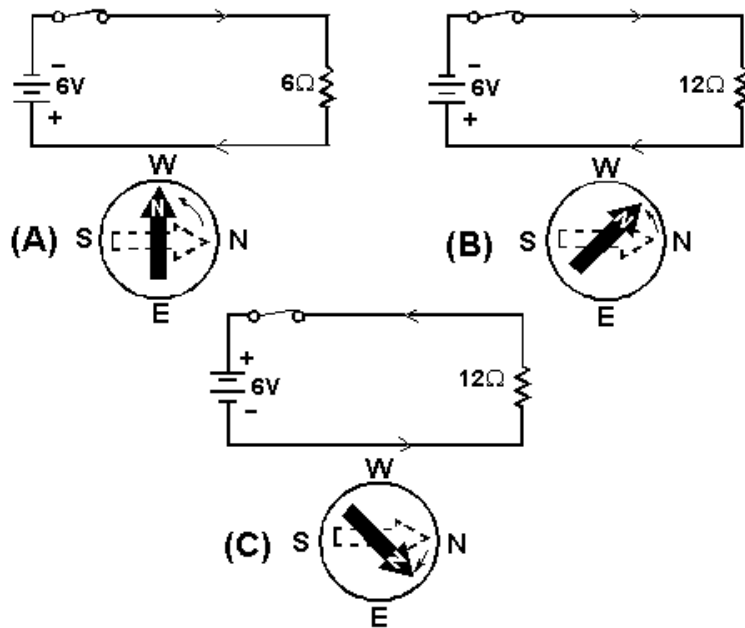

Figure 1-2.—Compass and conductor with direct current.
You know that an electrical conductor in which current flows has a magnetic field generated around it. If a compass is placed close to the conductor, the compass will react to that magnetic field (fig. 1-2).
If the battery is disconnected, the north end of the compass needle will point to magnetic north, as illustrated in figure 1-2(A) by the broken-line compass needle pointing to the right. When the battery is connected, current flows through the circuit and the compass needle aligns itself with the magnetic field of the conductor, as indicated by the solid compass needle. The strength of the magnetic field created around the conductor is dependent upon the amount of current.
In figure 1-2(A), the resistance in the circuit is 6 ohms. With the 6-volt battery shown, current in the circuit is 1 ampere. In figure 1-2(B), the resistance has been changed to 12 ohms. With the 6-volt battery shown, current in the circuit is 1/2 or .5 ampere. The magnetic field around the conductor in figure 1-2(B) is weaker than the magnetic field around the conductor in figure 1-2(A). The compass needle in figure 1-2(B) does not move as far from magnetic north.
In figure 1-2(C), the battery connections are reversed and the compass needle now moves in the opposite direction.